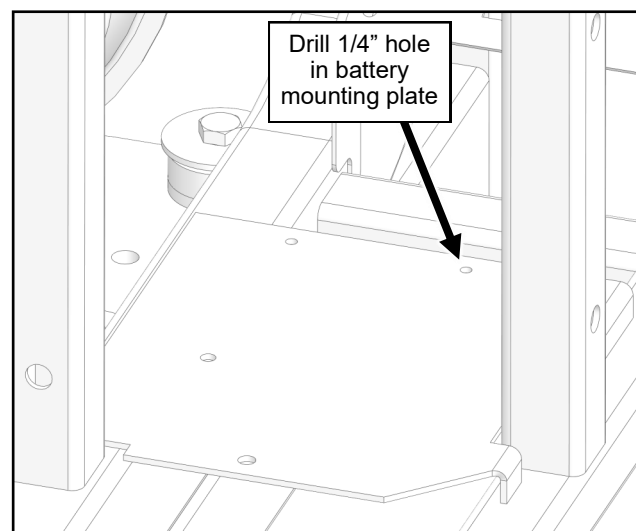

Fig. 1.5 (Drill Battery Mounting Plate)
- 1.5 Drill out rear battery mounting hole as shown in figure 1.5.